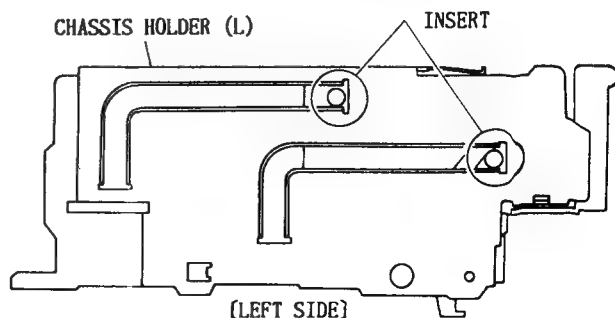

Fig 5-4
- \* Check that two (2) bosses of the cassette holder are inserted into the grooves on the left of the chassis holder. (Fig. 5-4)